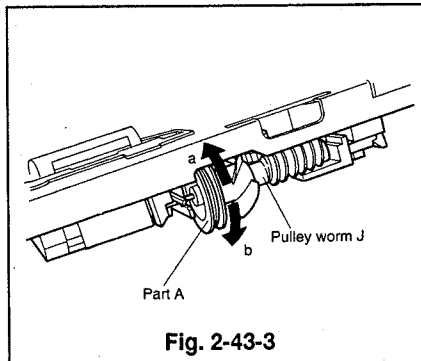
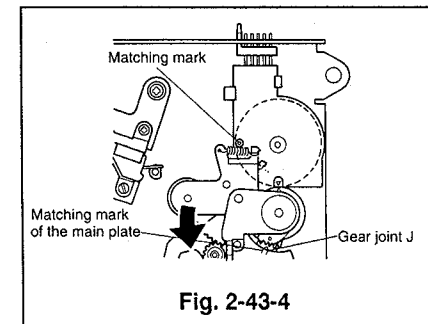

Fig. 2-43-3
Fig. 2-43-4
- ⑤ Slide the supply and takeup tape guide assemblies to the end of the loaded position by either of the following methods.
- Supply voltage (approximately 5V plus voltage on the red wire) to the loading motor as in ② of the removal method in Para. 2-19.
- Turn part A of pulley worm J by hand, in the direction shown by the arrow (a) as shown in Fig. 2-43-3. Raise the supply and takeup tape guide assemblies upward to remove them.
- ③ Slide the supply and takeup tape guide assemblies to the unloaded position, by either of the following methods so that the upper hole of the mode switch aligns with that of the cogwheel as shown in Fig. 2-43-4.
- Supply voltage (approximately 5V), reversing the polarity used in ④ of the removal method, to the loading motor as ⑤ of the installation method in Para. 2-19.
- Turn part A of the pulley worm J by hand, in the direction shown by the arrow (b) as shown in Fig. 2-43-3.